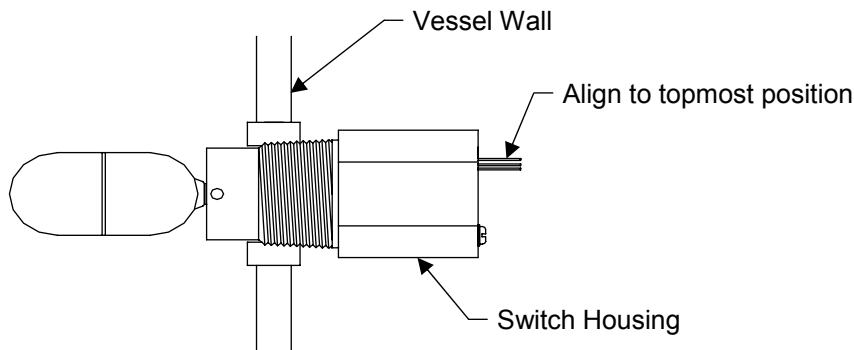
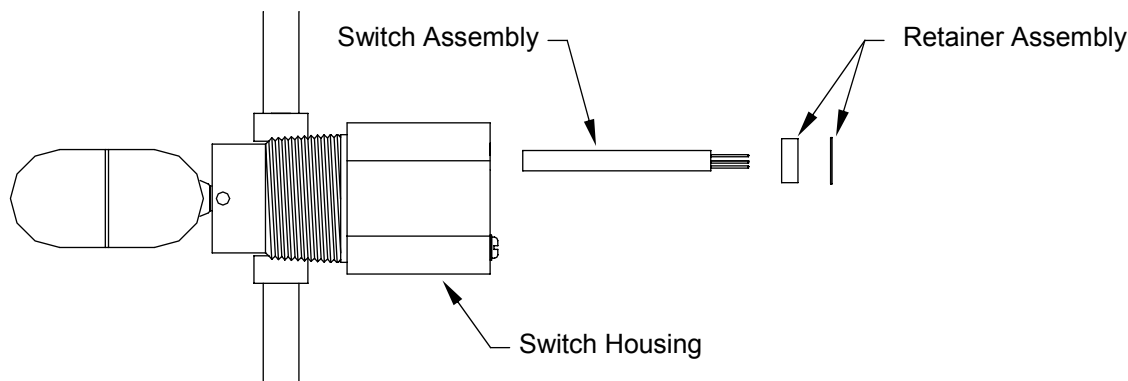

Figure 1 – MS10 Alignment
Figure 2 – Installation of MS10 Electrical Contacts
1. Inspect the switch for any signs of damage incurred during shipment. Mount the switch in a process connection at the point in which you want the switch to trip. Use of a suitable lubricant/sealing compound is recommended. During final tightening, align the MS10 electrical connection to the topmost position as shown (Figure 1). A 2" wrench is needed for tightening. The electrical contacts may be installed either before or after installing the switch housing (Figure 2). Be sure to push the retainer assembly firmly into the switch housing during installation. The retainer assembly may be removed to facilitate removal of the switch assembly, if necessary.